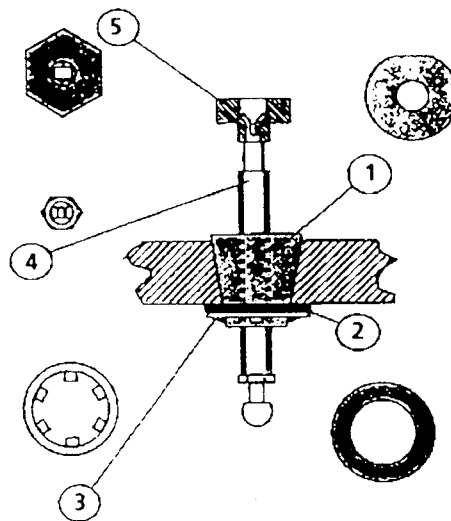

Figure 2.
2.2 An assembled searchlight trimscrew is shown in Figure 2.